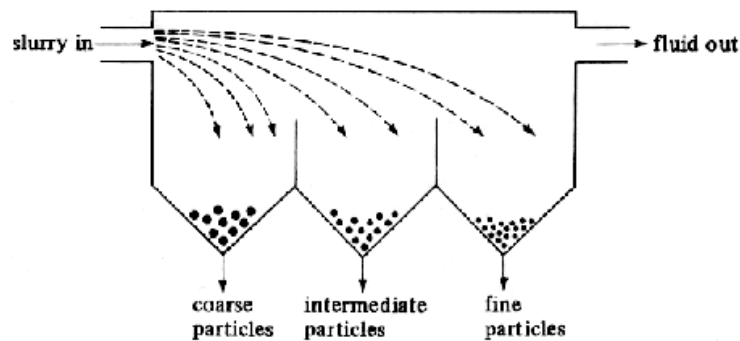

Figure 3. Simple settling tank designed to remove particles from the water [8].
- Figure 3. Simple Settling Tank